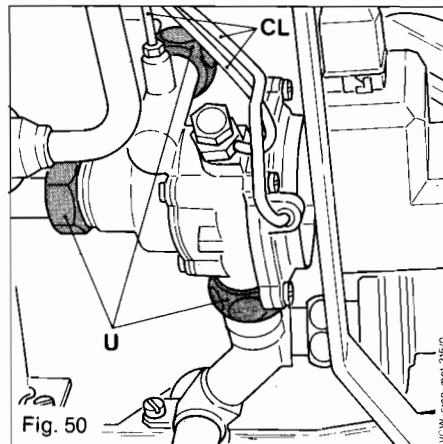

Fig. 50
14.6.3 Removal of complete diverter valve (Fig. 50)